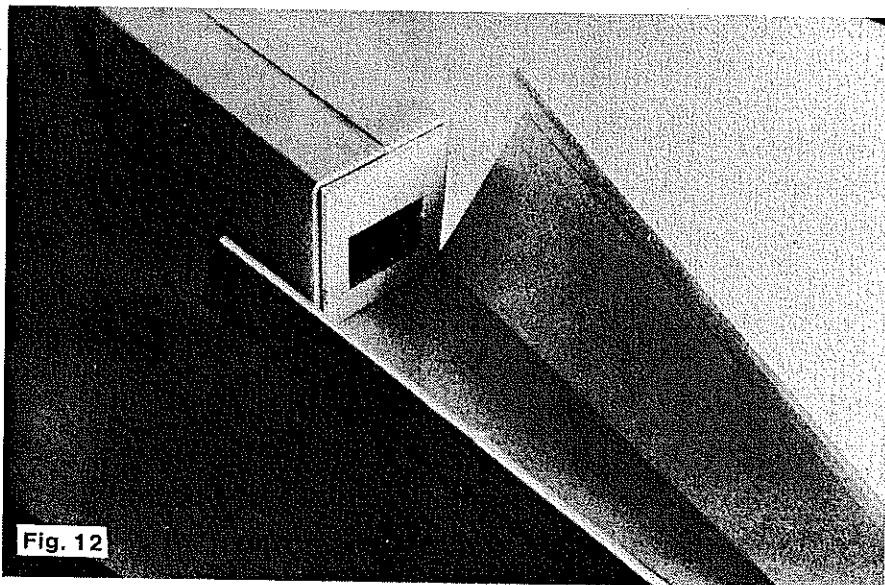

Fig. 12
9) Install bulkhead #2 in the tail section. Be sure the edge marked *top* is installed correctly. Glue down the edge marked *top* first, then fold the sides into position and glue. Note: Do not close up the bottom of the fuselage till later. Fig. 12 shows bulkhead #2 installed, before gluing sides.